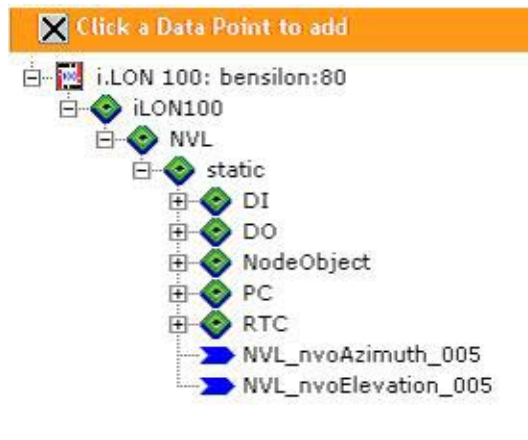

Figure 5.2 Data Point Tree
5. Select an **Input Point** for the new **Alarm Generator**. To do so, click the data point icon (*****None defined*****) below **Input Point**. A data point tree opens on the left side of the Web page, as shown in Figure 5.2.